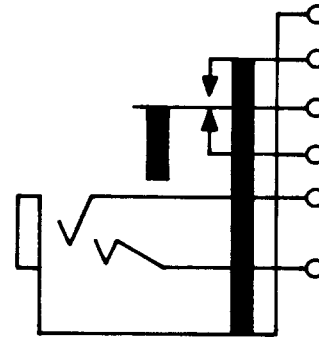

Fig. 11—326-Type Jack
2.11 **326A, C, AM, and CM:** These single-mounted jacks (Fig. 11) are used with the 310 or similar-type plugs. These jacks are intended to be mounted with the springs in a vertical plane. The 326AM and CM jacks are equipped with mechanically wrapped terminals.